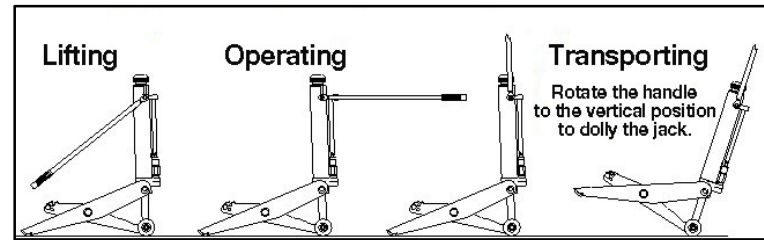

Fig. 3: Handle positions
3. Pull handle away from jack and rotate to desired position. For wheeling (transporting) the jack place handle in the vertical position (see Figure 3).